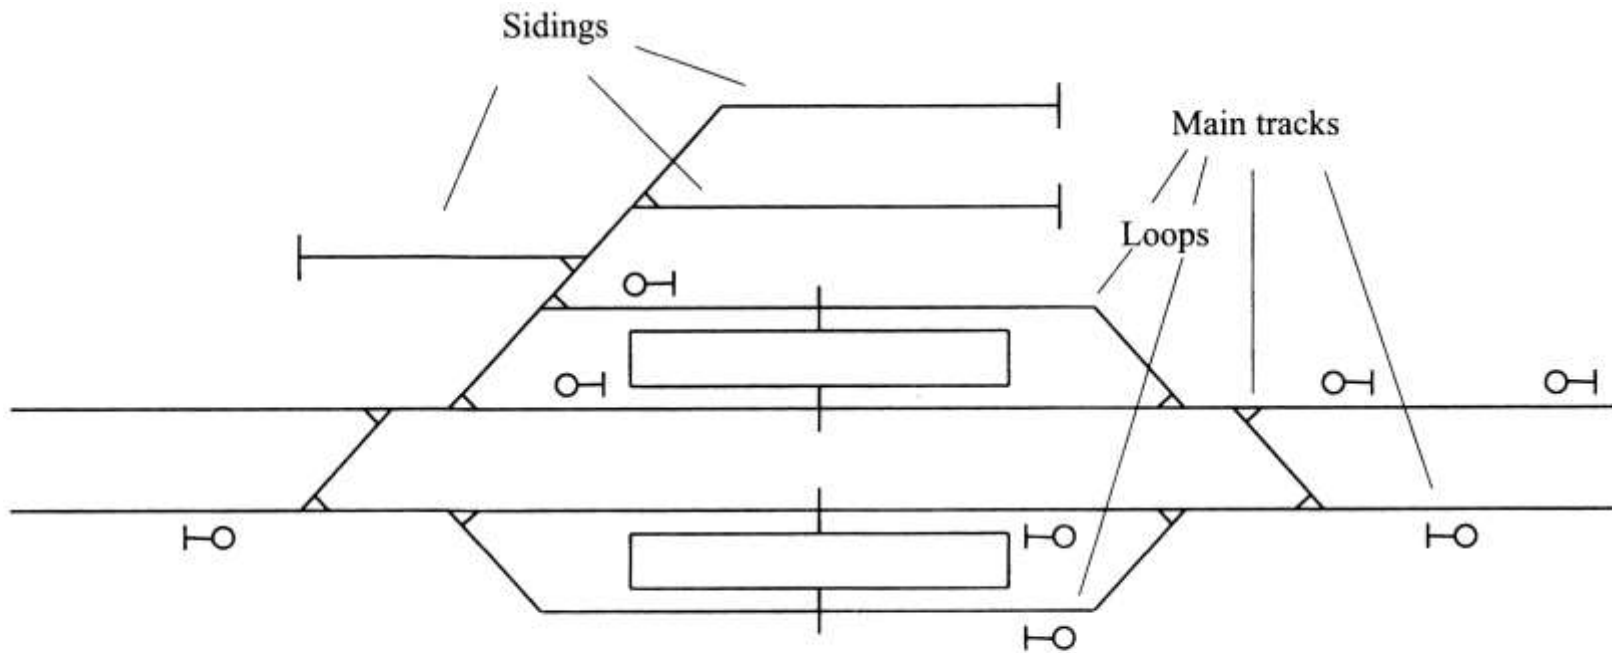

Fig. 1.2 Classifications of tracks
- ◆ Main tracks used for passing and **overtaking train** are called loops (Fig.1.2).